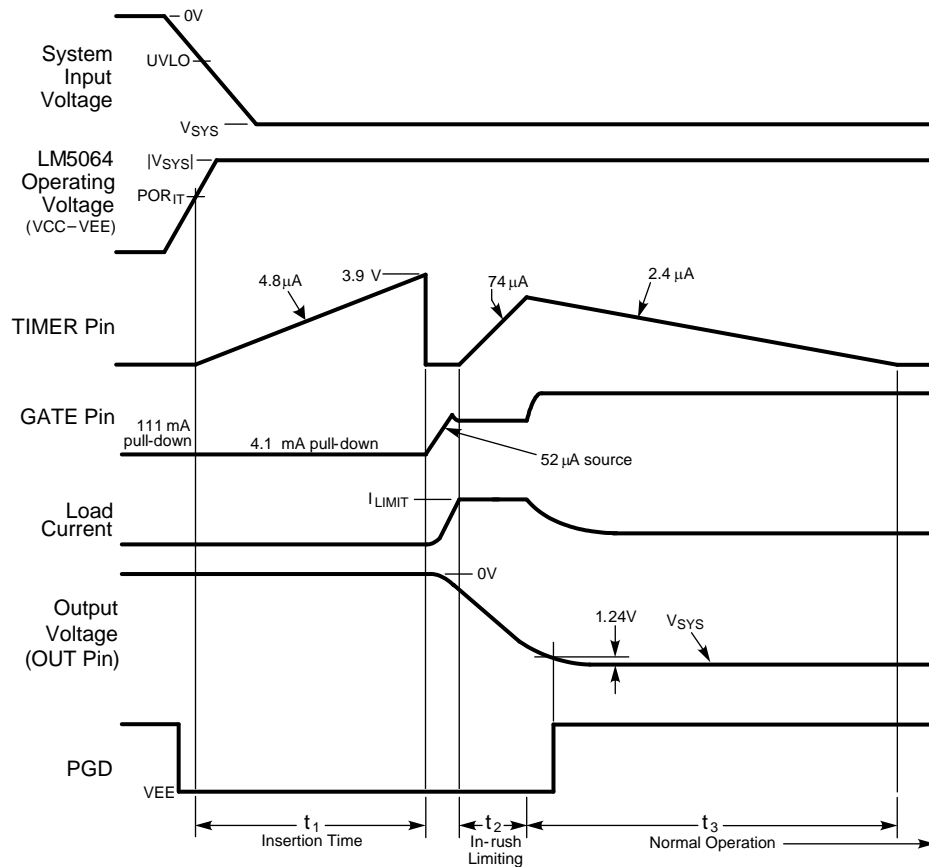

Figure 2. Power Up Sequence
Referring to Figure 2, as the system voltage (V_{SYS}) initially increases, the external N-channel MOSFET (Q_1) is held off by an internal 111 mA pull-down current at the GATE pin. The strong pull-down current at the GATE pin prevents an inadvertent turn on as the MOSFET’s gate-to-drain (Miller) capacitance is charged. Additionally, the TIMER pin is initially held at VEE. When the operating voltage of the LM5064 (VCC - VEE) reaches the POR_{IT} threshold, the insertion time begins. During the insertion time, the capacitor at the TIMER pin (C_T) is charged by a 4.8 μA current source, and Q_1 is held off by a 4.1 mA pull-down current at the GATE pin regardless of the input voltage. The insertion time delay allows ringing and transients on V_{SYS} to settle before Q_1 is enabled. The insertion time ends when the TIMER pin voltage reaches 3.9V. C_T is then quickly discharged by an internal 1.5 mA pull-down current. The GATE pin then switches on Q_1 when the operating voltage exceeds the UVLO threshold. If the operating voltage is above the UVLO threshold at the end of the insertion time, (t_1 in Figure 2) the GATE pin sources 52 μA to charge the gate capacitance of Q_1 . The maximum voltage on GATE is limited by an internal 12.6V zener diode to VEE.
As the voltage at the OUT pin transitions to V_{SYS} , the LM5064 monitors the drain current and power dissipation of MOSFET Q_1 . In-rush current limiting and/or power limiting circuits actively control the current delivered to the load. During the in-rush limiting interval (t_2 in Figure 2), an internal 74 μA fault timer current source charges C_T . If Q_1 ’s power dissipation and the input current reduce below their respective limiting thresholds before the TIMER pin reaches 3.9V, the 74 μA current source is switched off, and C_T is discharged by the internal 2.4 μA current sink (t_3 in Figure 2). The in-rush limiting will no longer engage unless a current-limit condition occurs.
A current source provides the charge at the GATE pin to enhance the N-Channel MOSFET's gate (Q_1). During normal operating conditions (t_3 in Figure 2) the gate of Q_1 is held charged by an internal 52 μA current source. The GATE pin peak voltage is roughly 12.6V, which will force a V_{GS} across Q_1 of 12.6V under normal operation. When the system voltage is initially applied, the GATE pin is held low by a 111 mA pull-down current. This helps prevent an inadvertent turn on of Q_1 through its drain-gate capacitance as the applied system voltage increases.
During the insertion time (t_1 in Figure 2), the GATE pin is held low by a 4.1 mA pull-down current. This maintains Q_1 in the off-state until the end of t_1 , regardless of the voltage on V_{SYS} or UVLO/EN. Following the insertion time, during t_2 in Figure 2, the gate voltage of Q_1 is modulated to keep the current or power dissipation level from exceeding the programmed levels. While in the current or power limiting mode, the TIMER pin capacitor is charging. If the current and power limiting cease before the TIMER pin reaches 3.9V, the TIMER pin capacitor then discharges, and the circuit begins normal operation. If the in-rush limiting condition persists such that the TIMER pin reached 3.9V during t_2 , the GATE pin is then pulled low by the 4.1 mA pull-down current. The GATE pin is then held low until either a power up sequence is initiated (RETRY pin to VDD), an automatic retry is attempted (RETRY pin to VEE or floating), or a PMBus ON/OFF command is initiated. See the Fault Timer & Restart section. If the operating voltage falls below the UVLO threshold, or rises above the OVLO threshold, the GATE pin is pulled low by the 4.1 mA pull-down current to switch off Q_1 .
When the current limit or power limit threshold is reached during turn-on, or as a result of a fault condition, the gate-to-source voltage of Q_1 is modulated to regulate the load current and power dissipation in Q_1 . When either limiting function is active, a 74 μ A fault timer current source charges the external capacitor (C_T) at the TIMER pin as shown in Figure 2 (Fault Timeout Period). If the fault condition subsides during the Fault Timeout Period before the TIMER pin reaches 3.9V, the LM5064 returns to the normal operating mode and C_T is discharged by the 1.5 mA current sink. If the TIMER pin reaches 3.9V during the Fault Timeout Period, Q_1 is switched off by a 4.1 mA pull-down current at the GATE pin. The subsequent restart procedure then depends on the selected retry configuration.
A) Insertion Delay -Upon applying the system voltage (V_{SYS}) to the circuit, the external MOSFET (Q₁) is held off during the insertion time (t₁ in Figure 2) to allow ringing and transients at V_{SYS} to settle. Since each backplane's response to a circuit card plug-in is unique, the worst case settling time must be determined for each application. The insertion time starts when V_{SYS} reaches the POR threshold, at which time the internal 4.8 μA current source charges C_T from 0V to 3.9V. The required capacitor value is calculated from: